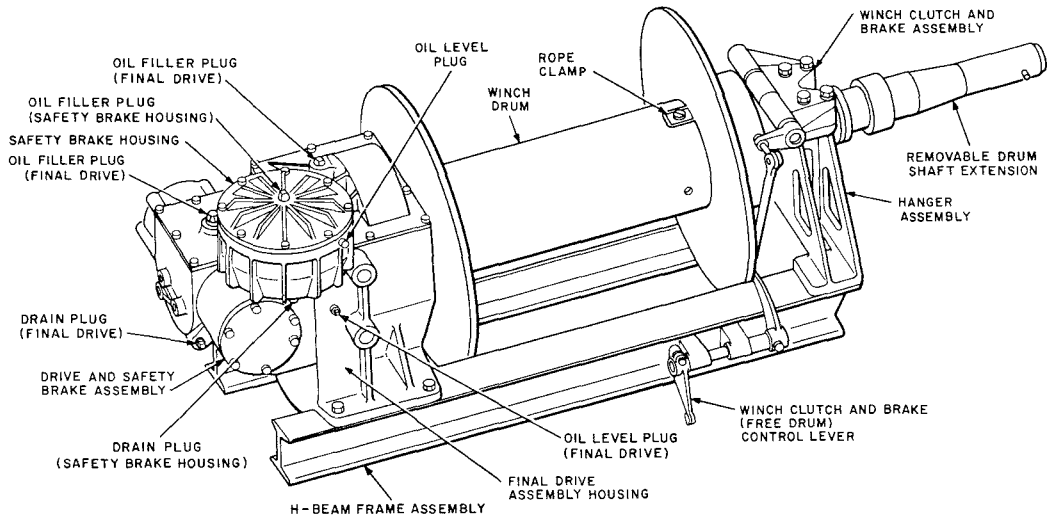

Fig. 1—AT8003 Winch
2.01 AT8003 Winch (Fig. 1) is rated at 20,000 pounds, continuous duty. It can be driven mechanically by the trunk engine and power takeoff or with a power take-off driven pump supplying hydraulic fluid to a hydraulic motor attached to a hydraulic drive such as the AT8111 or similar variable speed transmission.